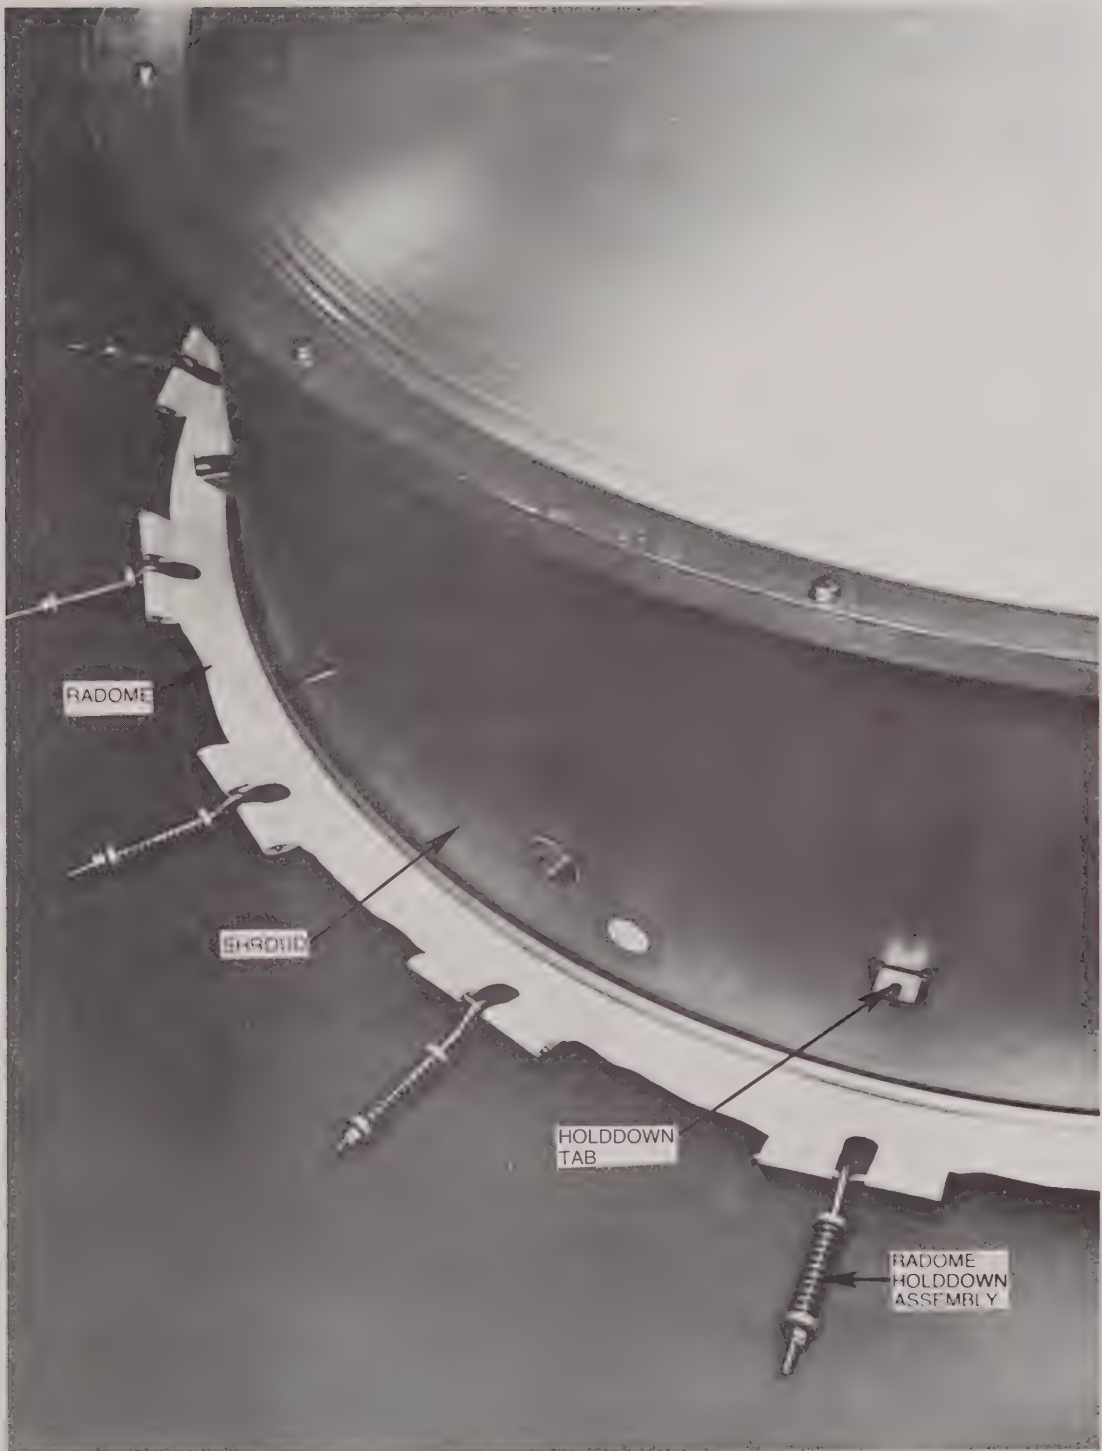

Figure 1
Step 2. Place the shroud, face side down and centered on the radome as shown in Figure 1. Make sure to lineup the TOP label on the shroud with the top mark on the radome tab.